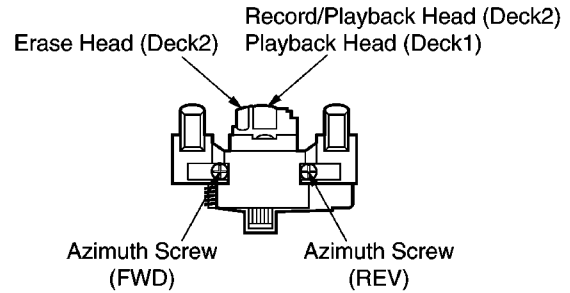

Fig. 13-2.
3. Playback the azimuth adjustment portion (12.5 kHz, -0.5 dB) of test tape (QZZCAER). Adjust the azimuth screw until the outputs of the L/R ch are maximized. Refer to Fig. 13-2. Make sure that the difference in the peak level between the left and right channels does not exceed 0.5 dB.